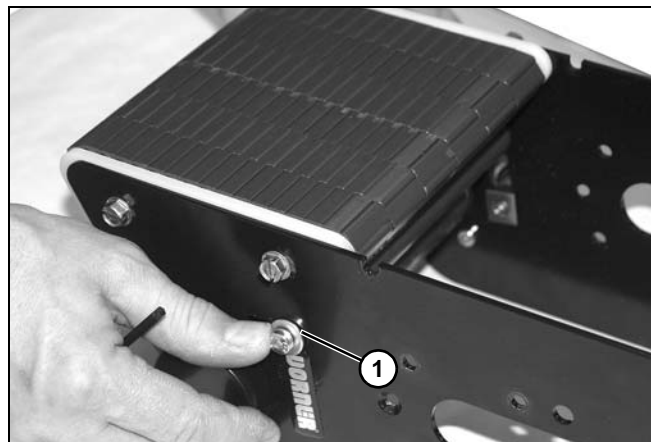

Figure 121
13. Slide assembly within slot (Figure 121, item 1) to remove tension on belt.